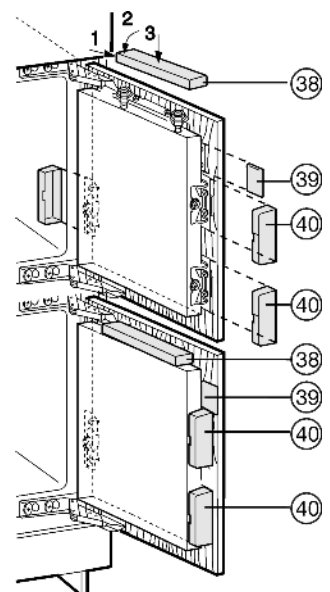

Fig. 26
- ▶ Put on and engage the upper covers *Fig. 26 (38)*.
- ▶ Place lateral covers *Fig. 26 (39)* in position, slide them to the limit, then press, until you hear them snap into place.
- ▶ Attach covers *Fig. 26 (40)* sideways and then draw them forwards with a screwdriver so that they snap into place.